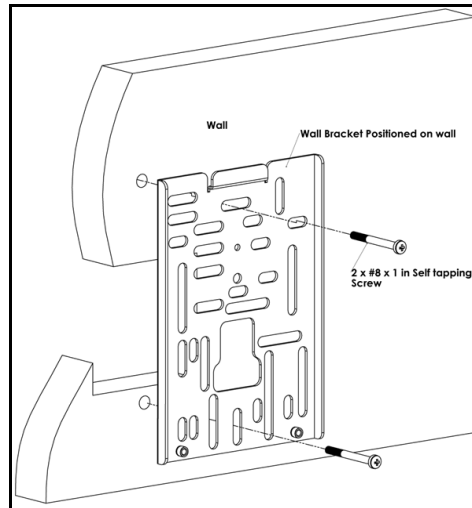

Figure 4- Mounting the Universal Wall Bracket
4. Fix the wall bracket to the wall with two screws as shown in figure 4.